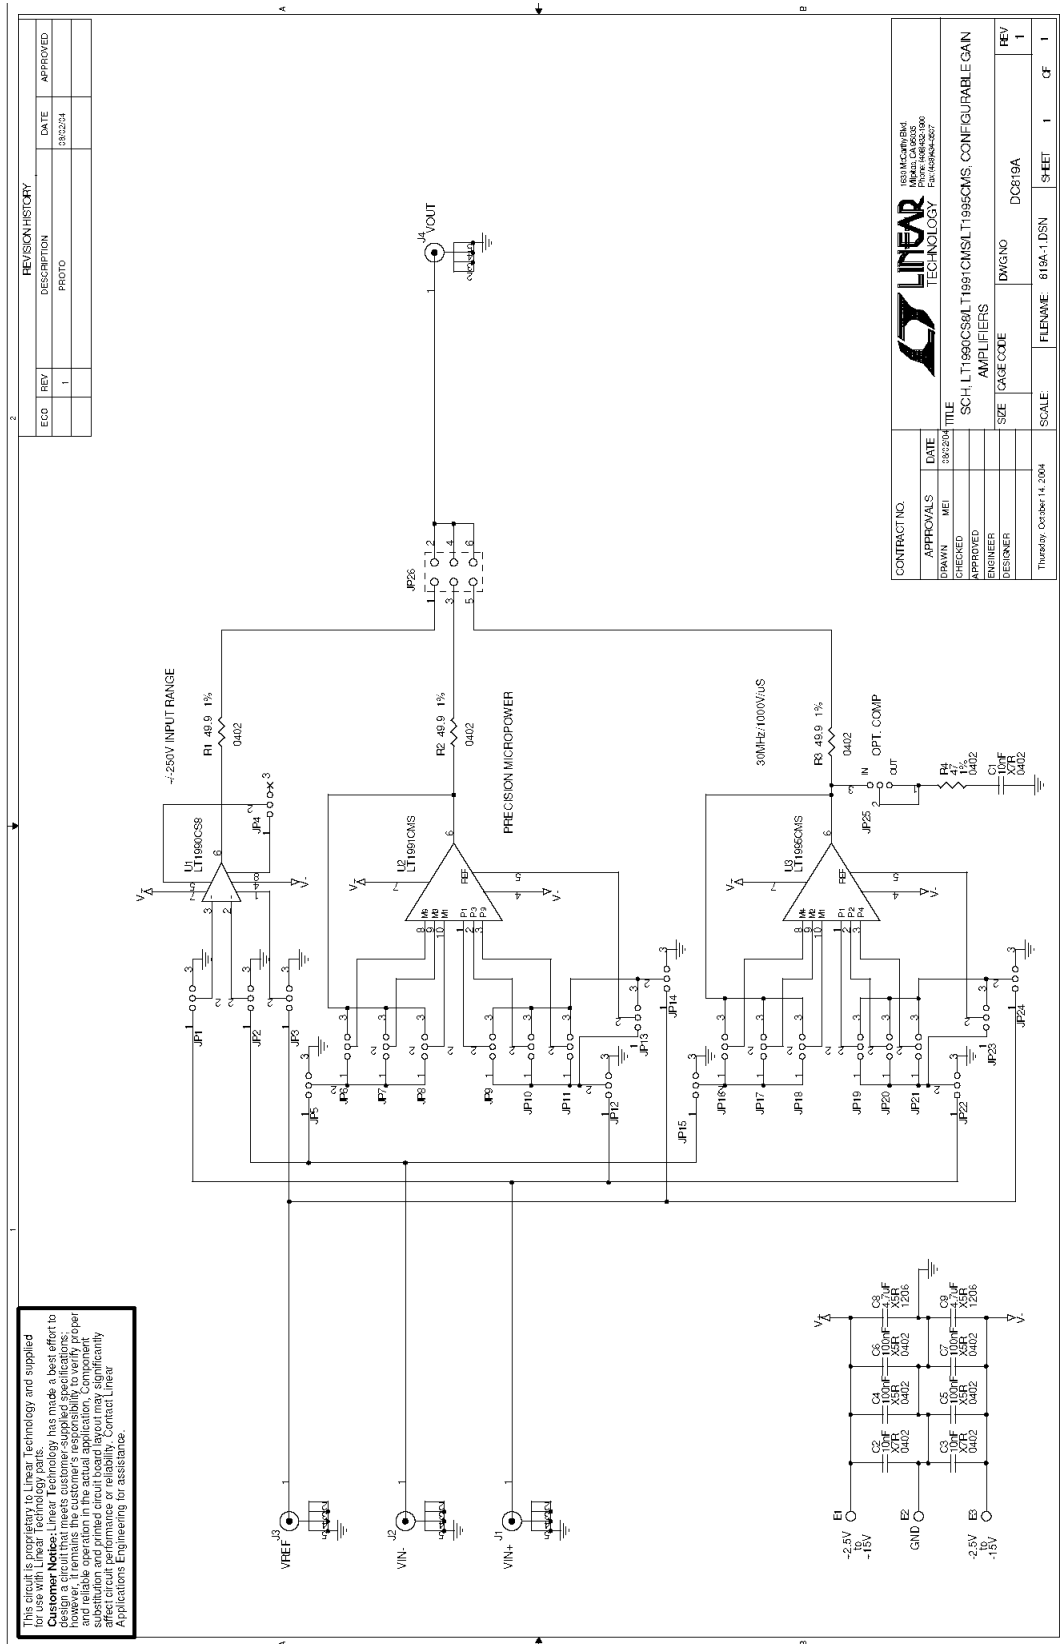

Figure 1. DC819 Electrical Schematic Diagram
This demo circuit can actually be considered as three circuits in one. As can be seen from the electrical schematic in Figure 1, jumpers define which devices are coupled to the I/O connections and what specific configuration the amplifiers take on. All three parts are powered from a common split-supply bus, so the unused devices are usually strapped so their inputs are grounded to avoid unpredictable behavior. Each amplifier output includes a 50 Ω series resistor to decouple instrument cable capacitance from the part, assuring stable behavior during evaluation. The single BNC output connector (VOUT, J4) is tied to the desired evaluation part by configuration of JP26. BNC input connectors are provided for a non-inverting input (VIN+, J1), an inverting input (VIN-, J2), and a reference voltage input (VREF, J3).
1. Configure the jumper field of one evaluation device to create a desired test circuit. Refer to Figure 1 and the device datasheet to determine the appropriate topology to employ.